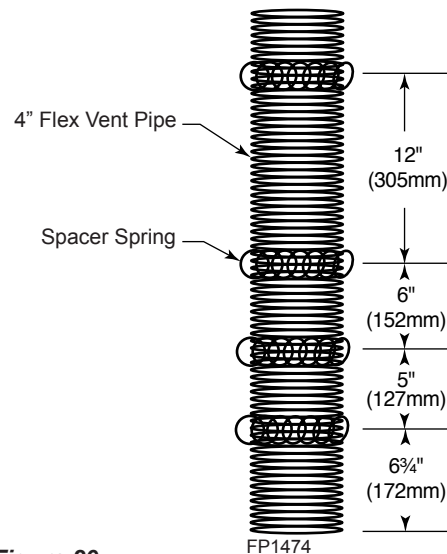

**Figure 29 -
Install the four (4) spacer springs on the 4" flex vent pipe. When installing the spacer springs around the 4" pipe, stretch the spring to approximately 15" (381 mm), wrap the spring around the pipe and interlock the ends of the spacer spring approximately 2" (51 mm). Measure 6¾" (172 mm) from the end of the pipe. Place the next spring 5" (127 mm) from the previously installed spring. Place the next spring 6" (152 mm) from the last spring. Finally place the last spring 12" (305 mm) from the last spring installed. *Figure 29*